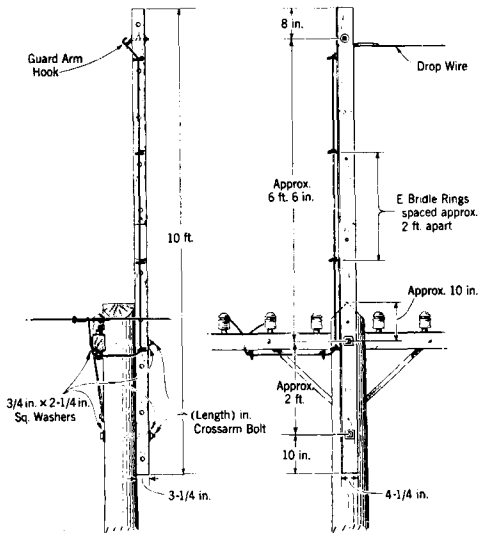

Fig. 1 — Typical Installation of Clearance Attachment
- (1) Where the first and second gains have not been cut in the pole, bore 11/16-inch holes at points 10 inches and 2 feet 10 inches, respectively, from the top of the pole. Measure the distance between centers of these holes on the back of the pole in order that the mounting holes to be bored in the clearance attachment may be similarly spaced.
- (2) Select a crossarm bolt of sufficient length to extend approximately 5 inches beyond the back of the pole at the upper hole. Where the first gain is occupied, select a bolt 4 inches longer than the existing bolt.
- (3) Place a 3/4-inch by 2 1/4 inch square washer on the bolt and drive it fully into the upper hole from the face of the pole. Where the gain is occupied, remove nut and washer of the existing bolt and drive it out with the longer bolt.
- (4) Select a second crossarm bolt and install it in the lower hole in a similar manner except drive it in only far enough to extend approximately 2 inches beyond the back of the pole.
- (5) Bore two 11/16-inch holes through the short dimension of the crossarm as illustrated in Fig. 1, one at a point 10 inches from the end and the second at the same distance from the center of the first hole as the distance between centers of the two holes in the pole.
- (6) Bore a 9/16-inch hole through the short dimension of the crossarm at a point 8 inches from the end opposite to the previously bored holes.
- (7) Install a guard arm hook in this hole so that the hook will be on the pole side of the clearance attachment with the opening at the top.
- (8) Install E bridle rings approximately 2 feet apart along the top or bottom of the crossarm, depending upon the location of the bridging point, as illustrated in Fig. 1.
- (9) Attach handline to the crossarm at a point above the center by means of a clove hitch, climb pole and, facing the back of the pole at the first gain, haul up the crossarm by hand.
- (10) Grasp the crossarm with one hand at the top mounting hole, guiding the upper portion with the other hand, and place the crossarm first over the upper bolt and then over the lower bolt.
- (11) Drive the lower bolt fully into the pole.
- (12) Place a 3/4-inch by 2-1/4 inch square washer and the nut on each of these bolts. Turn the nut firmly into place with a wrench.
- (13) Remove handline from the crossarm.
4.01 See Fig. 1.